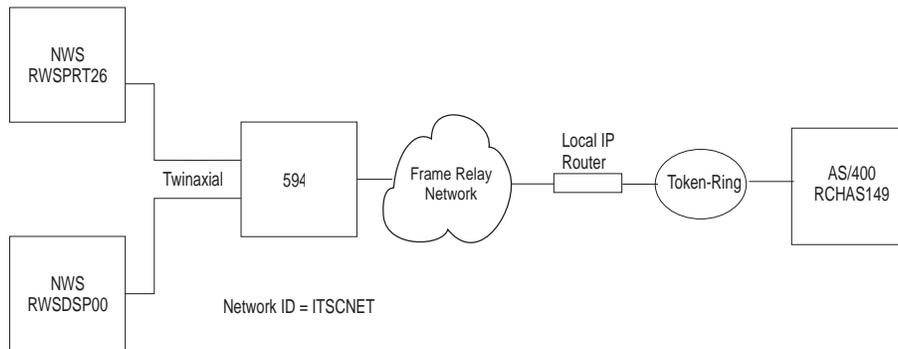

Fig. 25: AS/400 TCP/IP Frame Relay configuration
- Fig. 25: AS/400 TCP/IP Frame Relay configuration 14